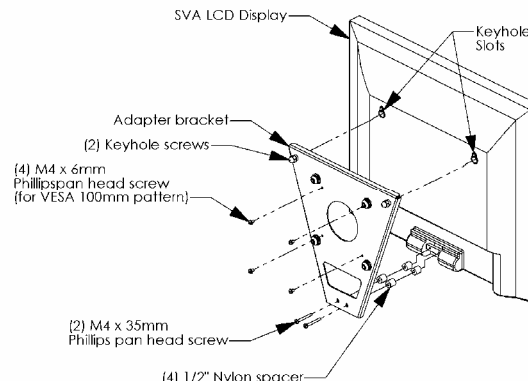

Figure 3
3. Install security by assembling two M4 x 35mm Phillips pan head screws through the bottom holes on the adapter bracket, through four 1/2" Nylon spacers (2 per screw), and thread into existing table stand mounting bar (see Figure 3).
2. Install security by assembling two M4 x 35mm Phillips pan head screws through the bottom holes on the adapter bracket, through four ½" Nylon spacers (2 per screw), and thread into existing table stand mounting bar (see Figure 3).